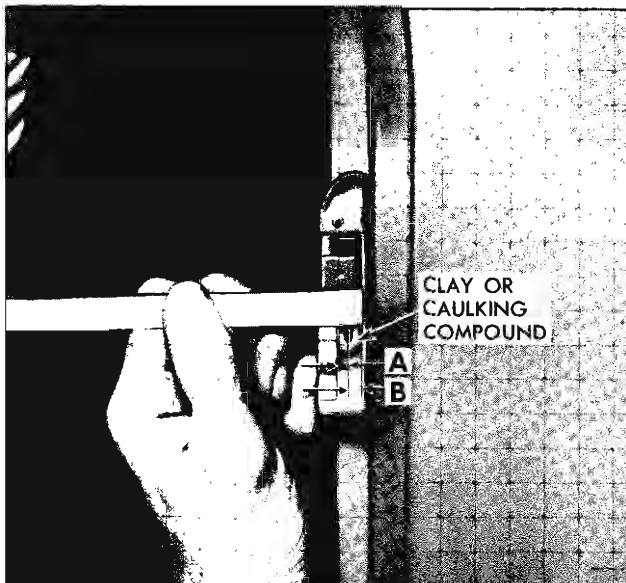

Fig. 14-24 Adjusting Lock Striker
b. To determine if lock striker spacers are required, apply modeling clay or body caulking compound in the lock striker notch where the lock extension engages and then close the tail gate to form a measurable impression in the clay or caulking compound (Fig. 14-24).